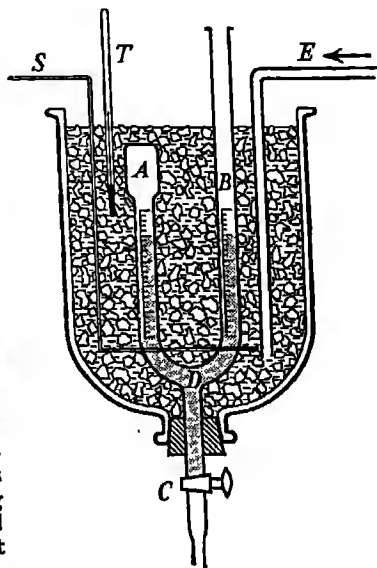

FIG. 233.
**Expt. 275. To find the relation between the temperature and volume of a gas, the pressure remaining constant.** (Fig. 233.) *A* is a bulb containing air. The liquid in the tube *B* is concentrated sulphuric acid. This keeps the air dry. By using the tap *C* the levels of the acid in both arms of *D* can be kept the same. The whole is surrounded by a mixture of ice and water contained in the inverted bell-jar. A stirrer *S* and a thermometer *T* are in the liquid in the bell-jar. *E* is a tube through which steam can be blown into the liquid in the bell-jar.